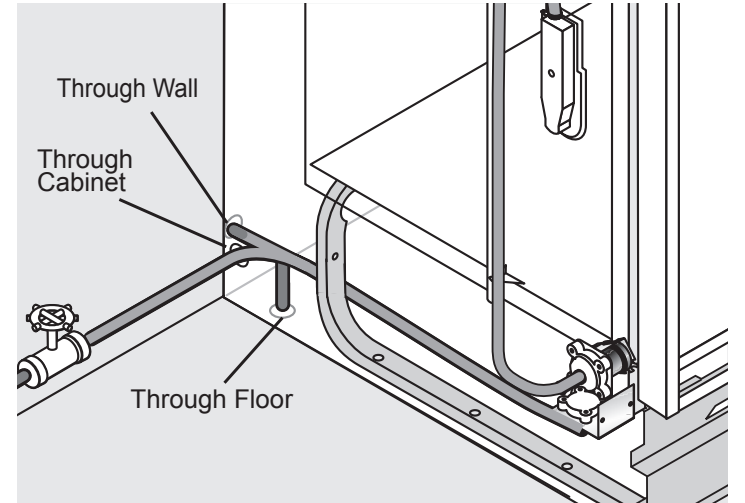

Figure 13
2. Route water line to water inlet valve as shown in **Figure 13.**
5. If water inlet valve clogs, make sure water supply is off. If using a 3/8" NPT valve, remove four (4) screws at inlet end of valve and clean filter screen. If using 3/4" hose thread fitting simply clean filter screen.